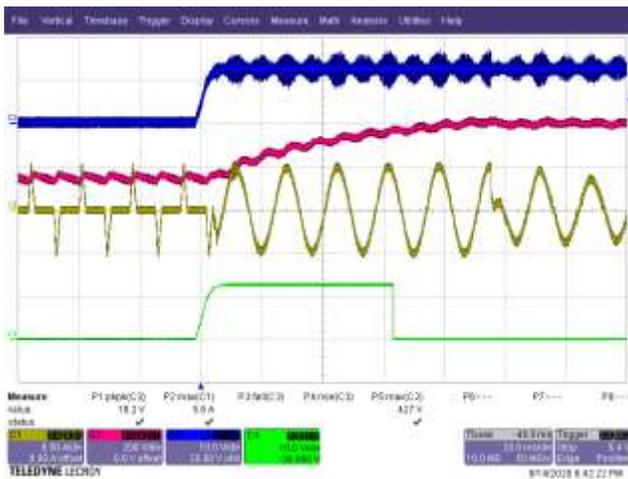

**Figure 56** – Line Surge 264 VAC, 100% Load.
**Note:** For Figures 56 and 58, input AC voltage was turned off to verify PG transition threshold.